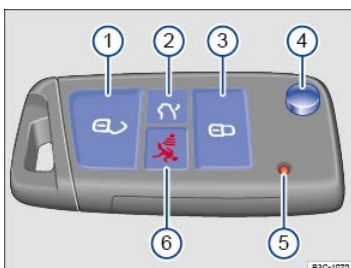

Fig. 51 Remote control vehicle key with panic button.
Key to ⇒ *Fig. 51* :
- *To fold the key bit out*: Press button ⇒ *Fig. 51* ④ to release the key bit and fold it out.
- *To fold the key bit in*: Press the button ④ and push the key bit in until it clicks.
Press the panic button ⇒ *Fig. 51* ⑥ only in emergencies! After pushing the panic button, the horn will sound and the turn signals will flash. Press the panic button again or press the  button on the remote control vehicle key to switch off the panic feature.